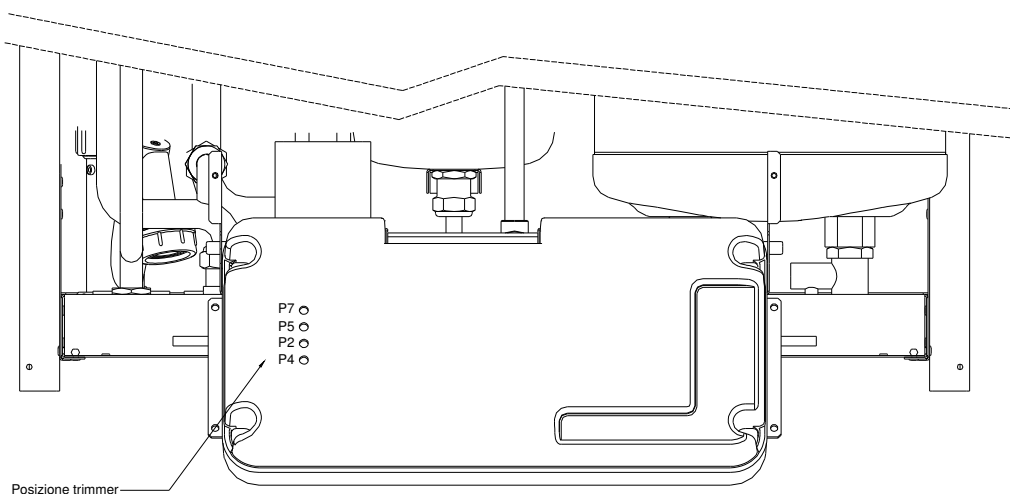

Fig 16
- ◆ If necessary, adjust the value (see Table 6) by turning the Venturi screw (B) as shown in Fig. 16 using a 4mm Allen spanner.
- ⇒ if necessary turn the off-set screw (A) of the gas valve clockwise to increase the percentage of CO₂, or anti-clockwise to decrease it;
- ◆ If necessary, adjust the value (see Table 6) by turning the Venturi screw (B) as shown in Fig. 16 using a 4mm Allen key.